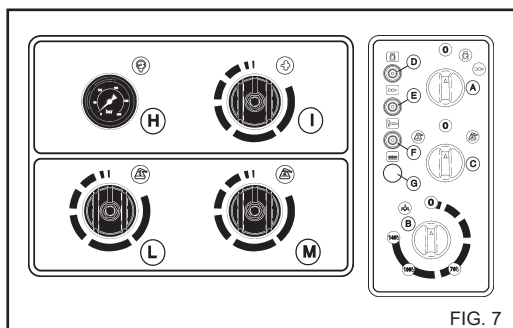

FIG. 7
Turn the thermostat knob "B" (fig. 7) to steam position to obtain an increase in the temperature of the water at delivery (140°C - 284°F).
During use with boiling water, "Steam Phase", keep away from the openings for fumes discharge (risk of burning). When you have finished using the "Steam Phase", turn the thermostat knob "B" to position "0" (fig. 7) and let the machine cool down for about 3 minutes with the gun turned on.
2) Switch on the water cleaner. Select the detergent (1 or 2) with the selector (C, fig. 7). Turn the relevant detergent flow regulator anti-clockwise; (L) for detergent 1 or (M) for detergent 2 (fig. 7) Spray detergent on to the surface to wash, proceeding from the bottom upwards.
3) Turn the detergent selector (C, fig. 7) back to position 0. Turn the detergent flow regulators clockwise to stop detergent flow.